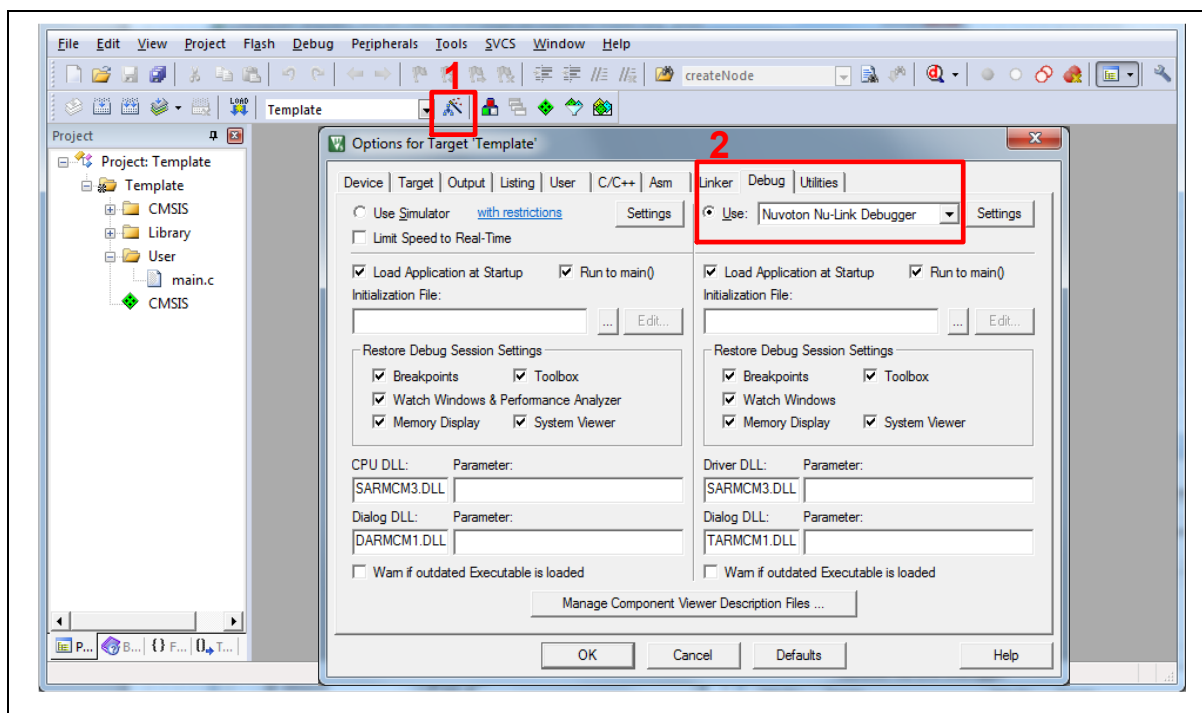
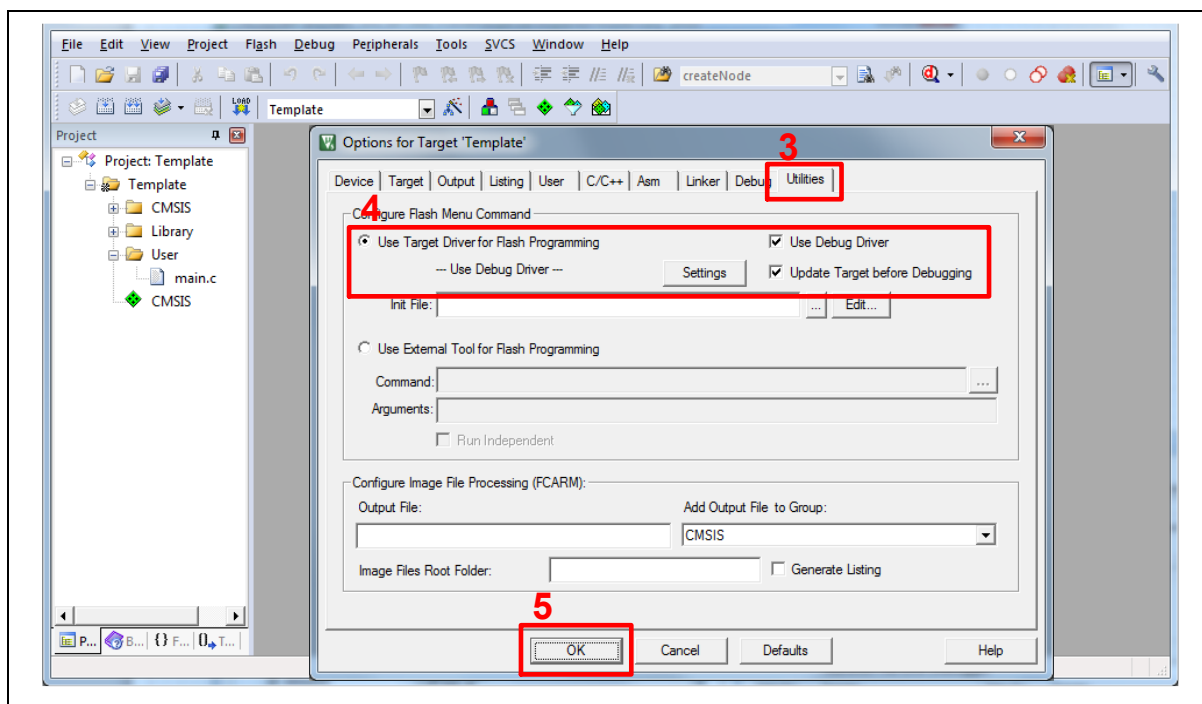

Figure 4-10 Debugger Setting in Options Window
Figure 4-11 Programming Setting in Options Window
Make sure the debugger is “Nuvoton Nu-Link Debugger” as shown in Figure 4-10 and Figure 4-11.
**Note:** If the dropdown menu in Figure 4-10 does not contain “Nuvoton Nu-Link Debugger” item, please rework section 4.2.